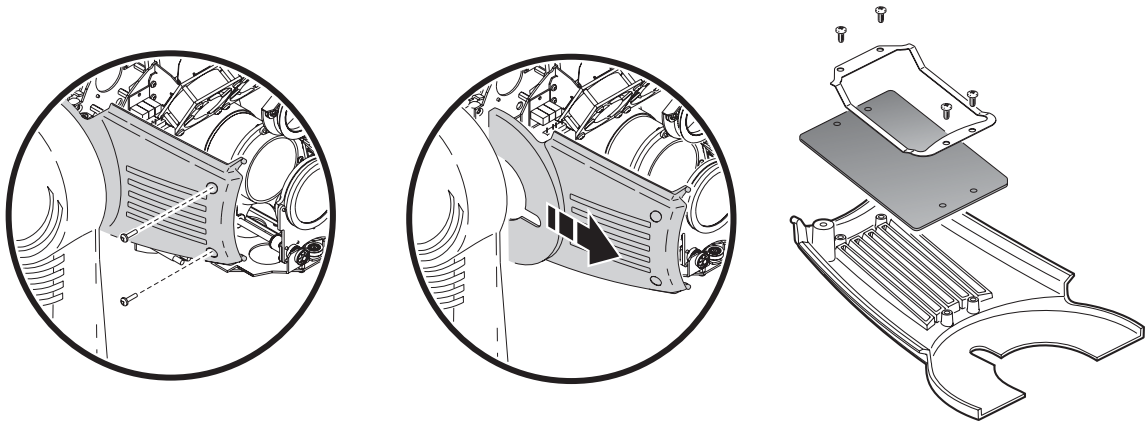

Figure 22: Air filters in head
6. See Figure 22. On each side of the head, remove the 2 screws that hold the side covers and slide the covers forward to remove. Unscrew the air filter clips and inspect the filter elements. If they are dirty, soak them in warm soapy water and blot dry. If the filters are not in perfect condition, replace them. Reinstall the filters and side covers.